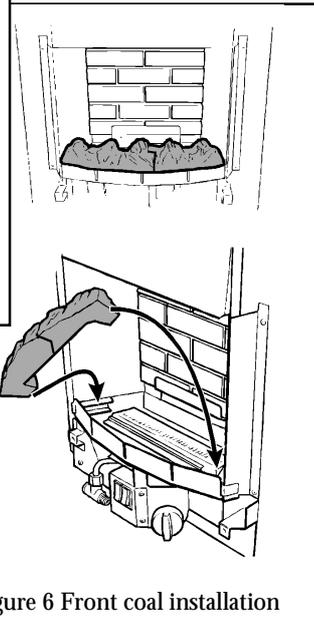

Figure 6 Front coal installation
**2** Place the two halves of the front base coal in the burner compartment so that they rest on the ledges at the sides and front. Pull the coals forward so that they are immediately behind the front rim of the burner compartment (See figure 6).